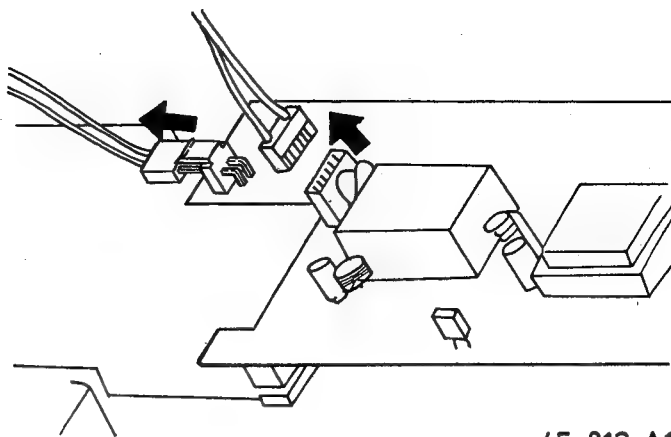

Fig. 5.4
- Lift the topcover for about 3 cm and disconnect two connectors from the LCD-backlight and the battery, see Fig. 5-4.